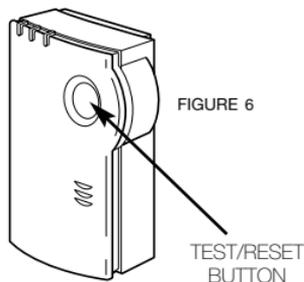

FIGURE 6
4. Press the test/reset button, (see figure 6). The alarm should sound a short tone. (Once the button is released, the CO alarm will go through its test cycle turning on the amber Service light and flashing the "Alarm" light. The alarm will beep four times followed by 5 seconds of silence and then repeat the cycle.